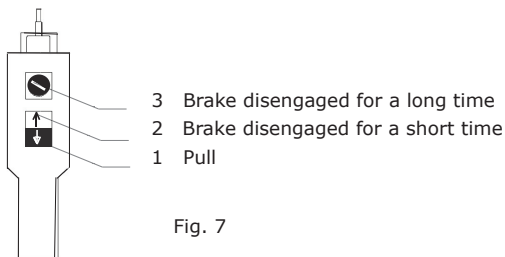

Fig. 7
- Disengage the brake by pressing the white push-button (2) [Fig. 7].
- Press the black push-button (1) [Fig. 7] to engage the brake and start unwinding the rope. If no unwinding is possible, you may have a pressure problem in your system (not enough operating pressure). In this case, start the driveline to activate the hydraulic pump.
- If your timber gets stuck against an obstacle (tree stumps or roots) during skidding, you may have to stop winching if the obstacle cannot be bypassed. In this case, a large amount of residual force may build up in your wire rope causing jerky unwinding. If this happens, repeatedly press (2-3 times) the white push-button (1) at very short intervals in order to release the tension from the wire rope.